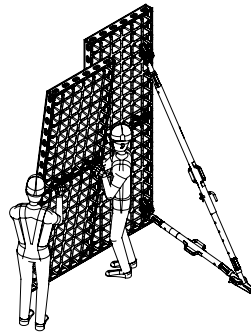

Fig. B1.05
5. Place the second panel unit next to it. (Fig. B1.05)